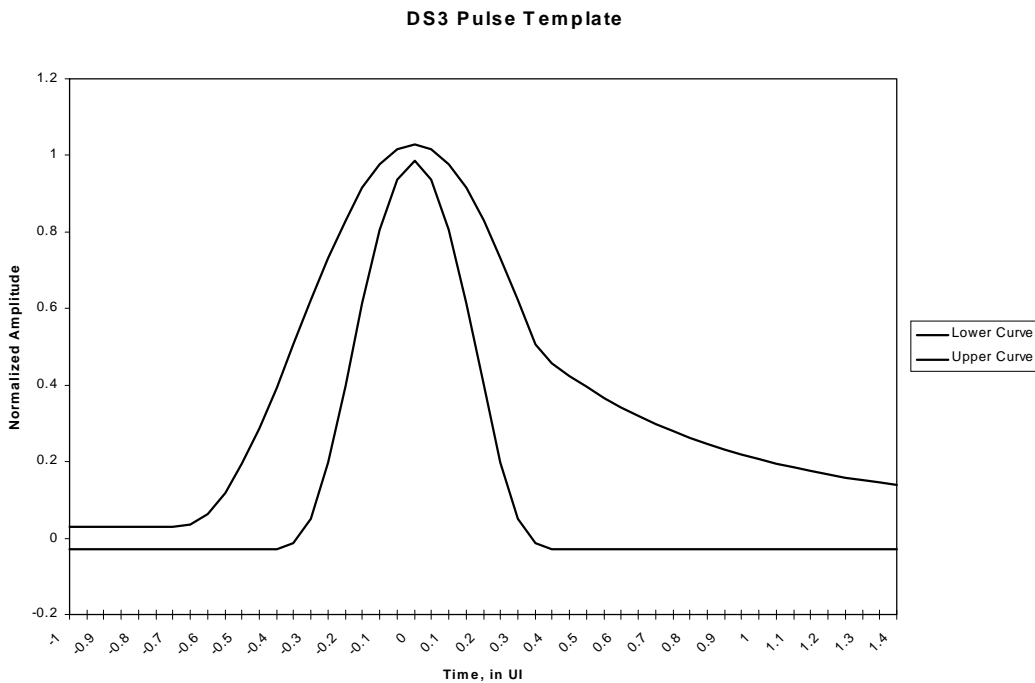

Figure 4, Illustration of the “Isolated Pulse Template Requirements” per Bellcore GR-499-CORE (for DS3 applications)
- b. The shape of each pulse (when plot on an oscilloscope) must reside entirely within the “Upper” and “Lower” Curves, as depicted in Figure 4.